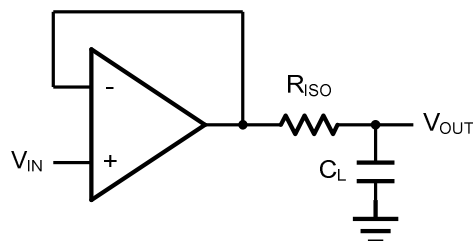
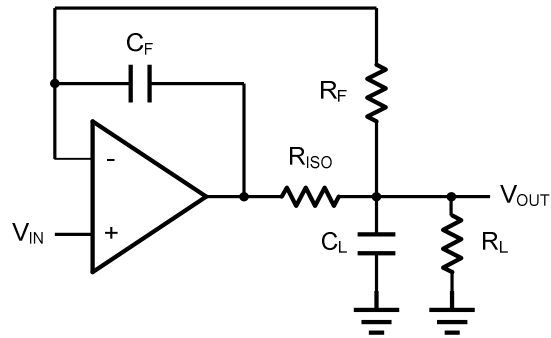

Figure 2. Indirectly Driving a Capacitive Load Using Isolation Resistor
Figure 3. Indirectly Driving a Capacitive Load with DC Accuracy
The OPAx335 family is optimized for bandwidth and speed, not for driving capacitive loads. Output capacitance will create a pole in the amplifier's feedback path, leading to excessive peaking and potential oscillation. If dealing with load capacitance is a requirement of the application, the two strategies to consider are (1) using a small resistor in series with the amplifier's output and the load capacitance and (2) reducing the bandwidth of the amplifier's feedback loop by increasing the overall noise gain. Figure 2. shows a unity gain follower using the series resistor strategy. The resistor isolates the output from the capacitance and, more importantly, creates a zero in the feedback path that compensates for the pole created by the output capacitance.
The circuit in Figure 3 is an improvement to the one in Figure 2. R_{F} provides the DC accuracy by feed-forward the V_{IN} to R_{L} . C_{F}